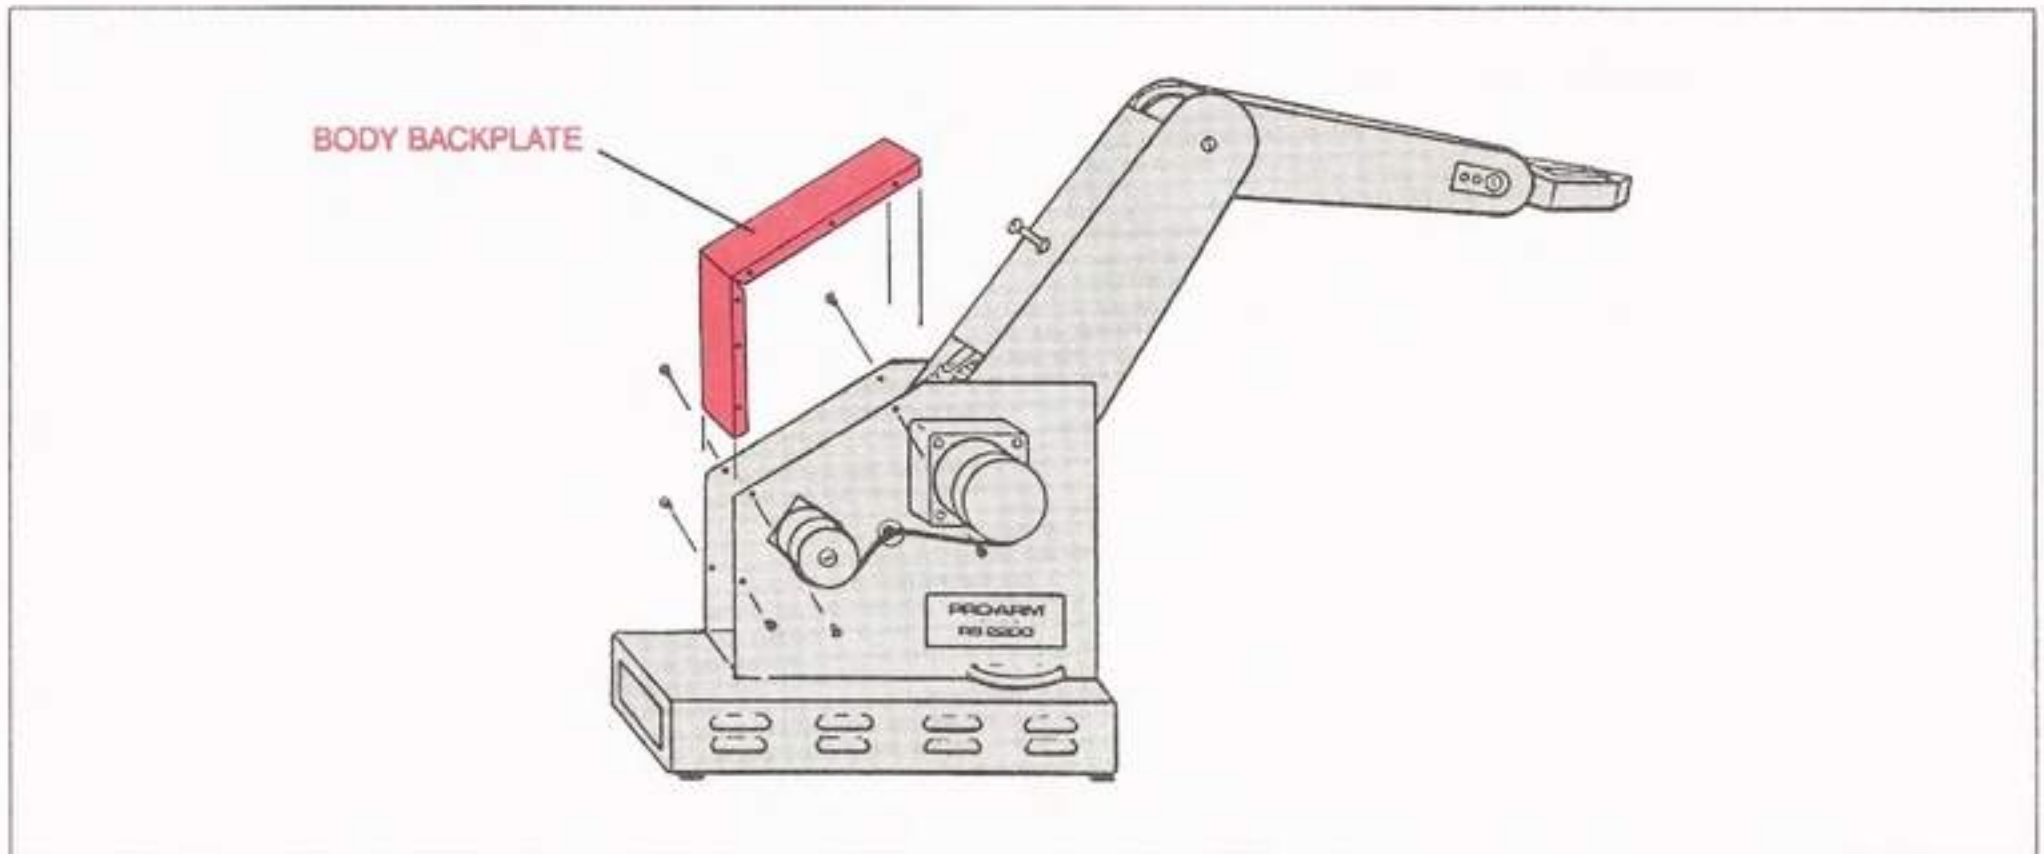

Fig. 95: Removing the Body Backplate
- ___ a. Using the Phillips-head screwdriver, remove the six screws (three per side) holding the Pro-Arm's **body backplate** (containing the unit's serial number), as shown in Fig. 95.